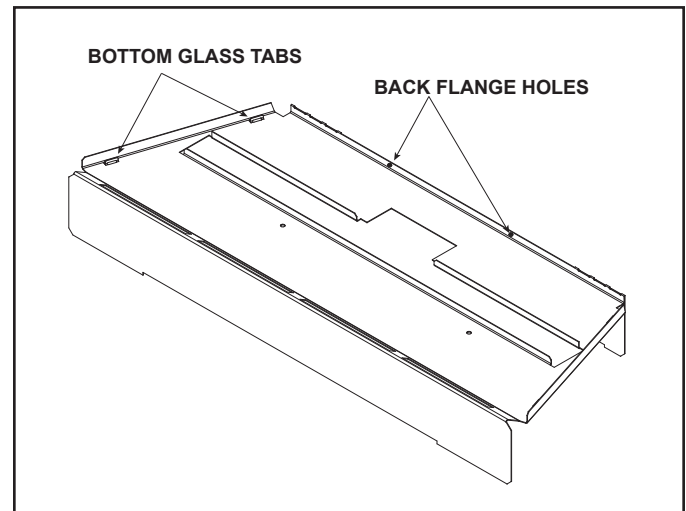

Figure 1. Bend Bottom Glass Tabs Up
2. Locate the two holes on the back flange of the basepan. Screw two self-tapping screws through the basepan and into the back wall of the firebox. See Figure 1.
3. Bend the bottom glass tabs, two on each side, up as shown in Figure 1.